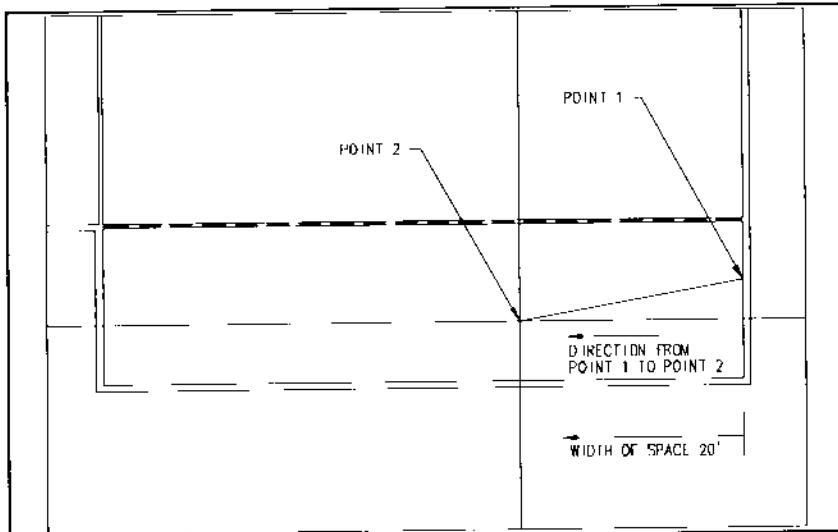

Figure 31.
2. When Edge Clean is on, the wall intersections will clean up automatically as each wall is drawn, as shown in Figure 31.
2. Specify a point along the inside face of the exterior wall of this new space in OFFICE-2 as the referenced wall, as shown in Figure 31.
3. A rubberbanding line appears, prompting the user to select a direction from POINT 1 to POINT 2. Pick a point inside the building, as shown in Figure 31.
- > Indicate direction from POINT 1 to POINT 2: [pick POINT 2 to your left as shown in Figure 31]